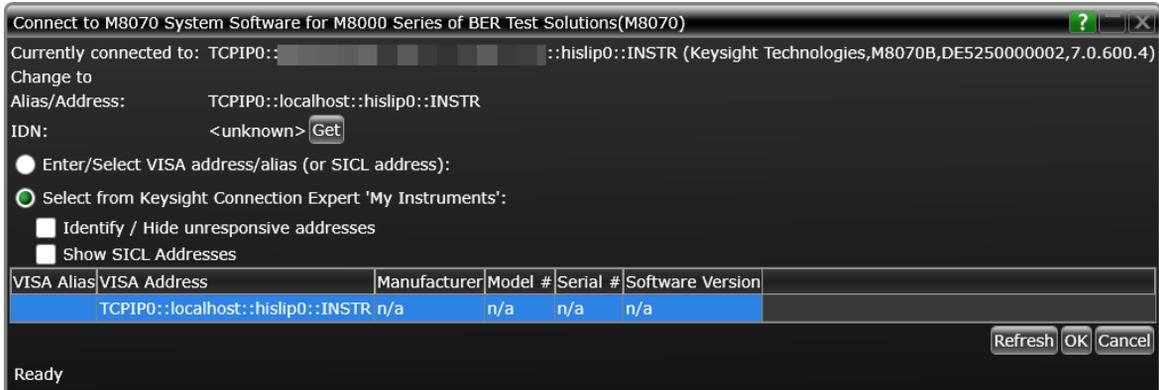

Figure 12 Connecting to M8070B if multiple instances are active
- If the OIF-CEI-112G Rx Test Application detects more than one instance of the M8070B software running, the **Connect to M8070 System Software for M8000 Series of BER Test Solutions (M8070)** window appears (Figure 12).